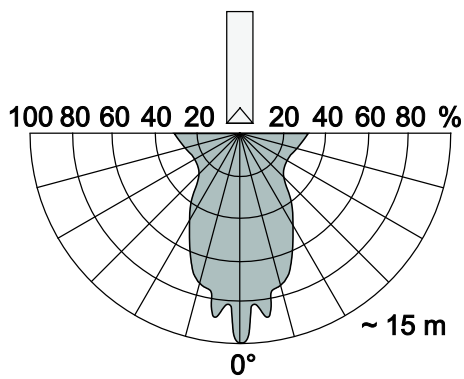

Fig. 4: IR receiving range
IR receiving range	Approximately 15 m (0 -line), see Fig. 4
For trouble-free function (adherence to the receiving characteristics; see Fig. 4) the brightness at the mounting position must not exceed 200 lux.
2. Observe the "IR receiving range" when addressing, see Fig. 4.